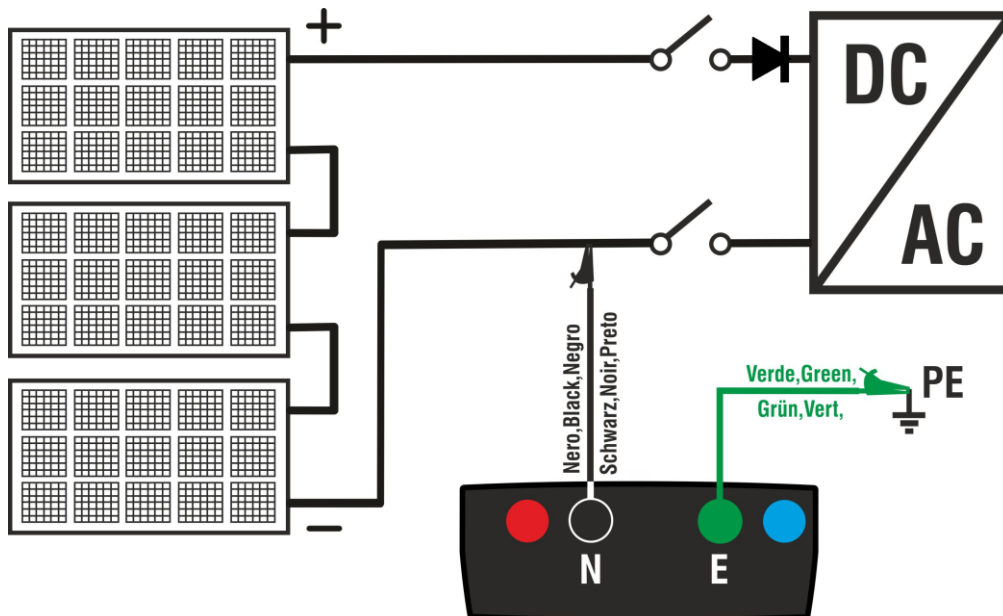

Fig. 7: Instrument connection for insulation measurement in TMR mode
8. Connect the instrument to the PV string to be tested as shown in Fig. 7. The test can also be performed on several strings in parallel with each other. Remember that any surge arresters connected to the string cables must be disconnected and that it is advisable to measure upstream of any blocking diodes